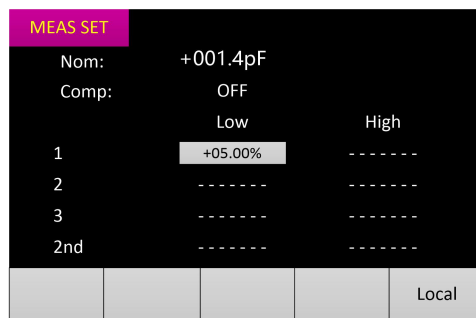

Fig.4-6
Step 2: Use the direction key to move the cursor to the upper and lower limits of the set gear and press the **TOL%** key to switch to the next tolerance value (1%, 5%, 10%, 20%) as shown in Fig.4-6